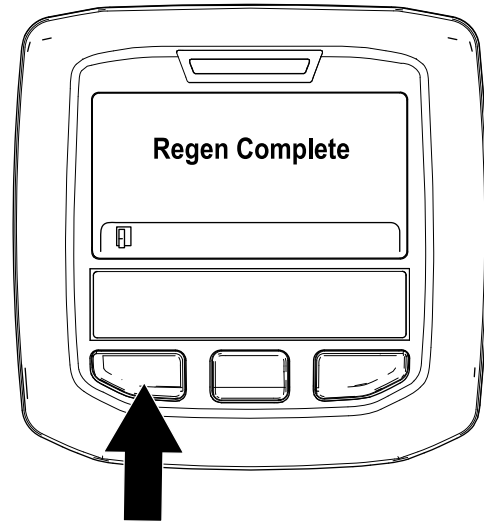

Figure 33
- The parked regeneration is complete when the “Regen Complete” message displays in the InfoCenter. Press the left button to exit to the home screen (Figure 33).